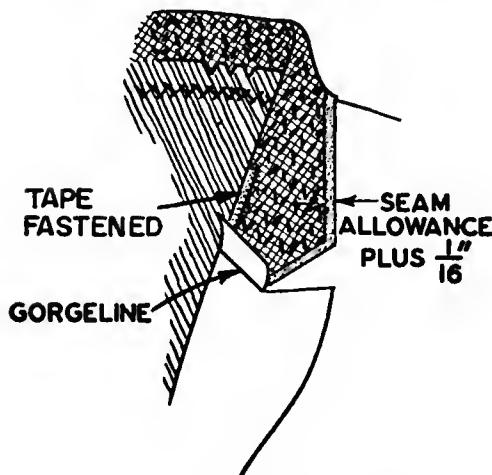

Fig. 195. Finishing the collar.
- C. Catch-stitch the reinforcement to the canvas stand of the undercollar (Fig. 195).
- D. The loose end of tape from the lapel breakline may be brought up onto the collar breakline, pulled snugly, and attached by hand along the straight part of the breakline (Fig. 195).